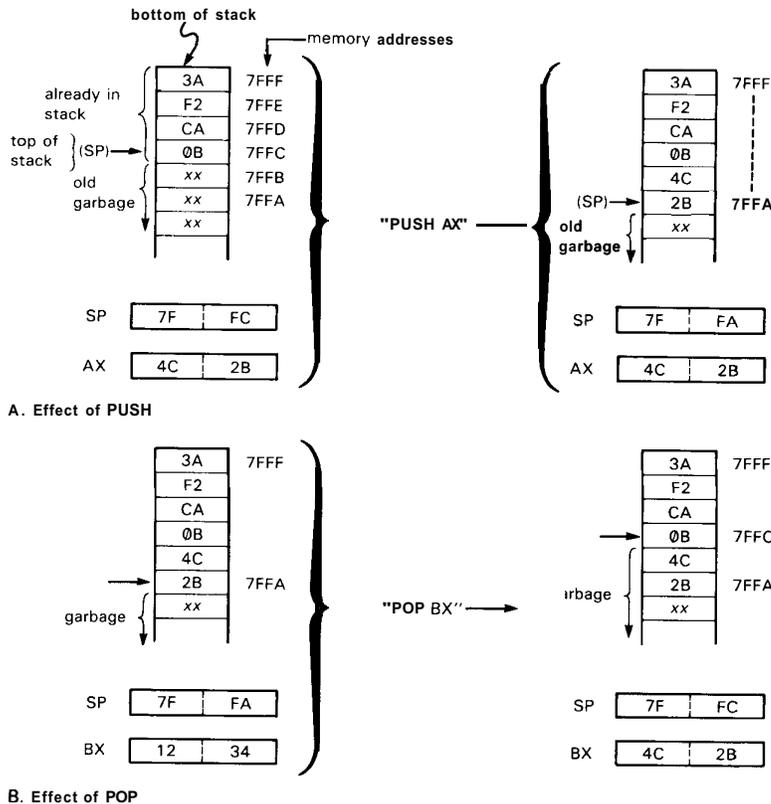

Figure 10.4. Stack operation.
Figure 10.4 shows how it works. The stack lives in ordinary RAM, with the CPU's stack pointer (SP) keeping track of the location of the current "top" of the stack. The 8086 stack holds 16-bit words and grows down in memory as you push data onto it. The SP is automatically decremented by 2 before each **PUSH**, and **incremented** by 2 after each **POP**. Thus, in